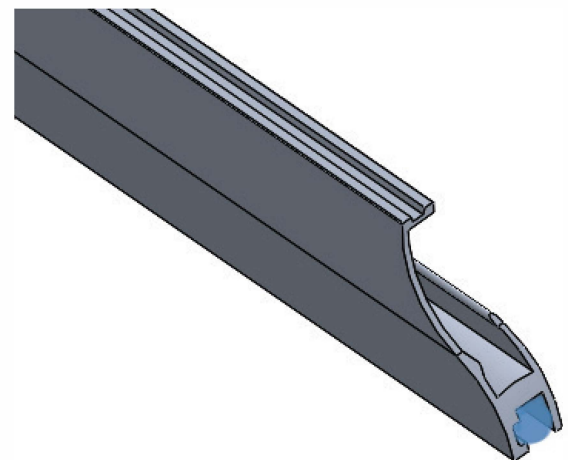

FIG 20.
- Place a generous bead of silicone in the underside groove of the sliding door track (**FIG 20**).